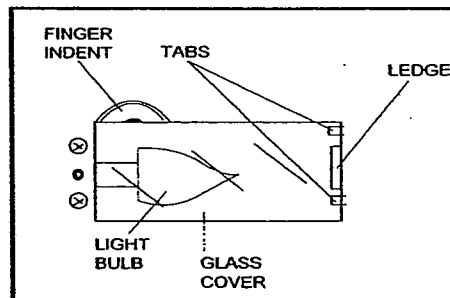

Figure 14
4. Carefully push Glass Cover all the toward the right (away from screws). Place your index finger into Finger Indent and carefully lift Glass Cover out. See Figure 14. Carefully set Glass Cover aside.
7. Replace Glass Cover. Be sure Glass Cover fits between the ledge and the two small tabs as shown in Figure 14.